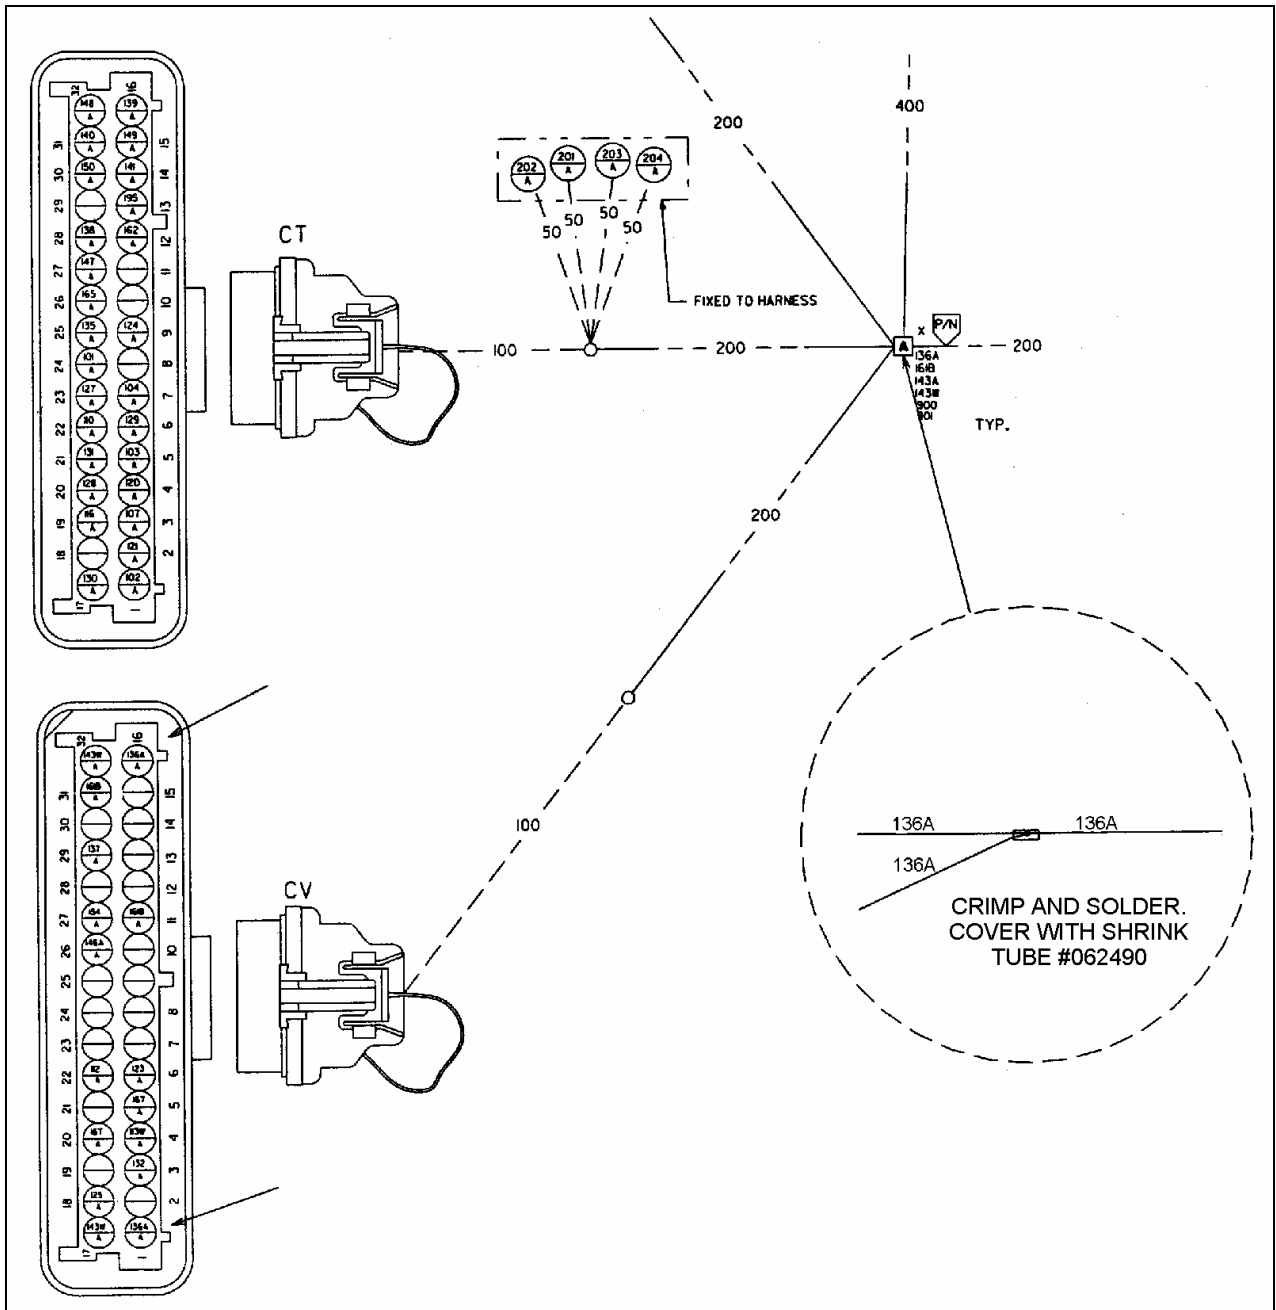

FIGURE 2: SCHEMATIC OF THE SPLICE IN WIRE 136A, CABLE #064660 OR #064655 (XL VEHICLES)
1. Practice an incision in the outer shield of the cable, about 12 inches (300 mm) from the connector (see fig. 2). Be careful not to damage the wires inside the cable;